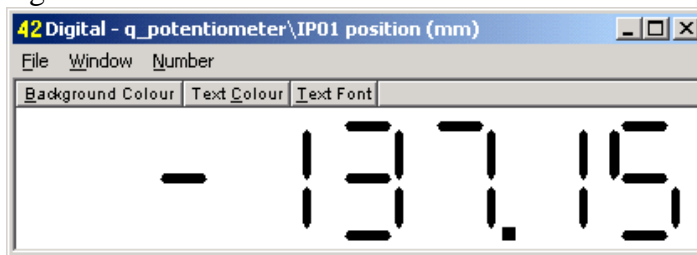

Figure 13 Digital Meter: IP01 Cart Position (mm)
Step 9. To measure the cart position in real-time, as it moves, you need to open from WinCon the model numeric display. To do so, click on the *Open Plot* button in the WinCon Server toolbar. From the selection list, choose the display named *IP01 position (mm)*, and press OK. This opens a WinCon Digital Meter displaying the IP01 cart position on-the-fly, as it is being measured. A similar Digital Meter is depicted in Figure 13.